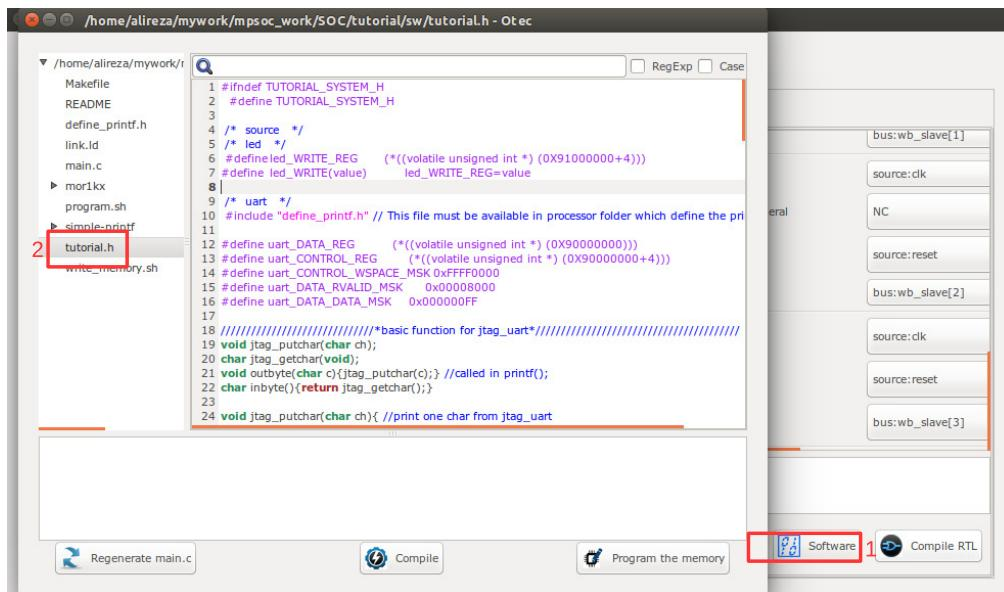

Figure 5.10: The software edit window snapshot.
2. In the left Tree-View window, you can select any file in the project `sw` directory to open and edit it. Click on the `tutorial.h` file to view its contents. This file contains all the generated SoC functions and Wishbone addresses. See Figure 5.10 for a snapshot of the software edit window.